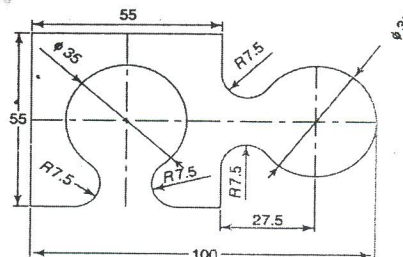

Fig.Q7(b)
- b. Write the manual part programming for the milling components shown in Fig.Q7(b) consider spindle speed as 800 rpm and feed rate as 100 mm/min and absolute positioning. Assume plate thickness as 10 mm and all dimensions are in mm.